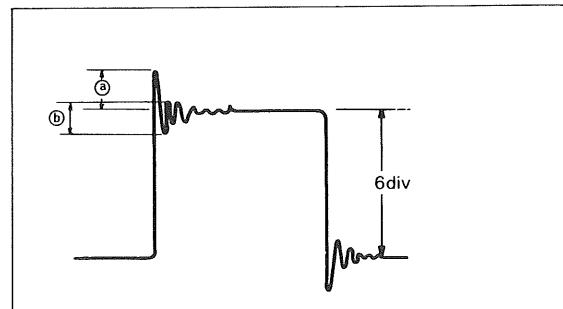

Fig. 3
3. Rotate SWEEP TIME/DIV control from  $2\ \mu s$  to  $0.2\ \mu s$ . Adjust TC704 (mid range) and VR703 (high range) for minimum overshoot (within 3%) and ringing (within 3%) at point (a) and (b) on waveform as shown in Fig.3.